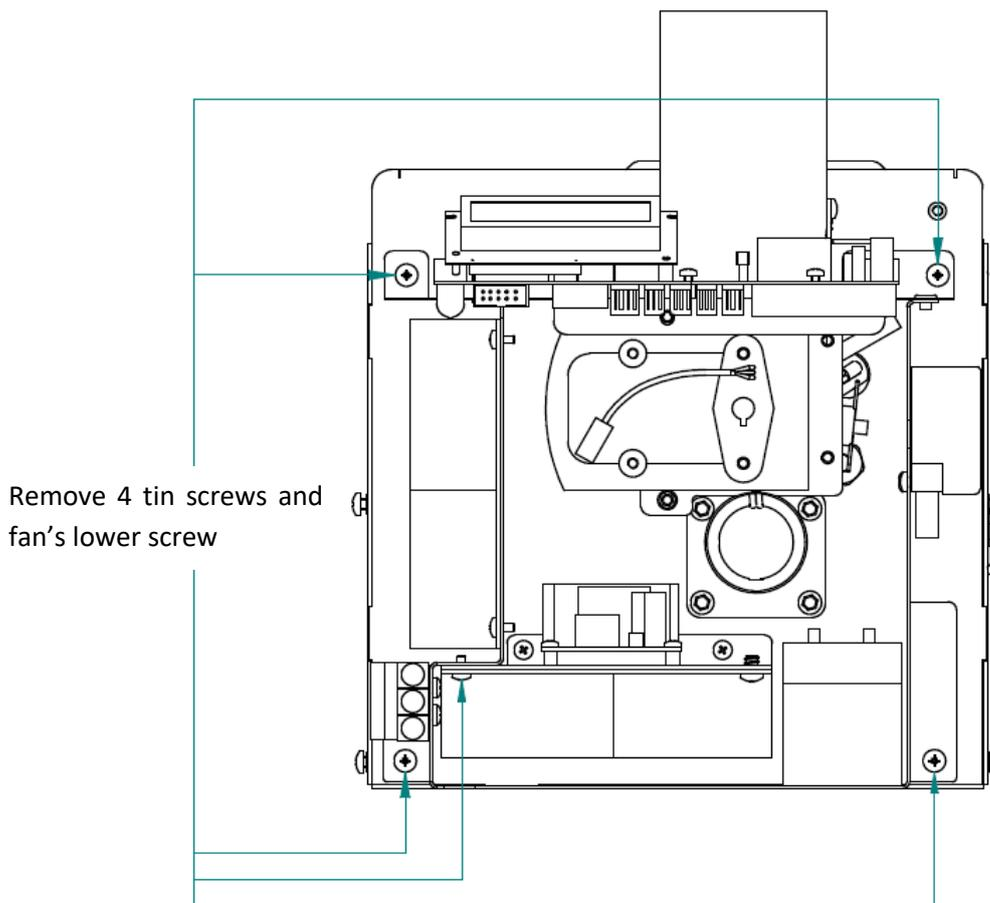

Figure 20 Removing the screws
2. Loosen and remove 4 tin screws from burner's body frame and 1 left lower fan screw. See Figure 20.